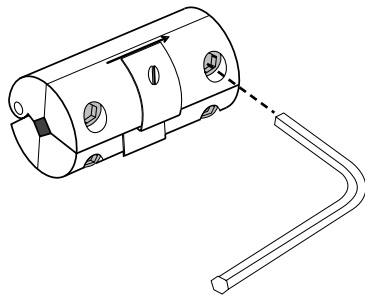

Figure 1
- a) Use a 7/64 inch hex wrench to remove the screw closest to the blade from the top half of the tool. Loosen the other screw (Figure 1).